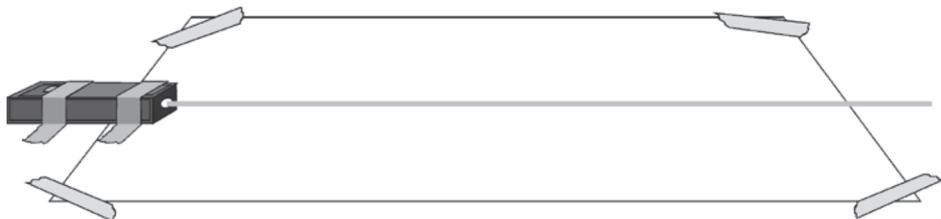

Figure 1 – Laser Line Set-up Illustrated
1. Tape (LI-6) white paper (LI-5) to a tabletop. Tape the laser diode module (LI-1) on the left side of the tabletop so the beam is directed left to right across the paper. Refer to Figure 1.